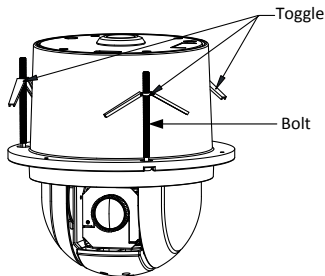

Figure 2-15 Install the Toggle Bolts
- (1) Remove the toggle from the toggle bolt.
- (2) Insert the bolts into the screw holes on the speed dome.
- (3) Rotate the bolts through the screw holes.
- (4) Reinstall the toggles as shown in Figure 2-15.